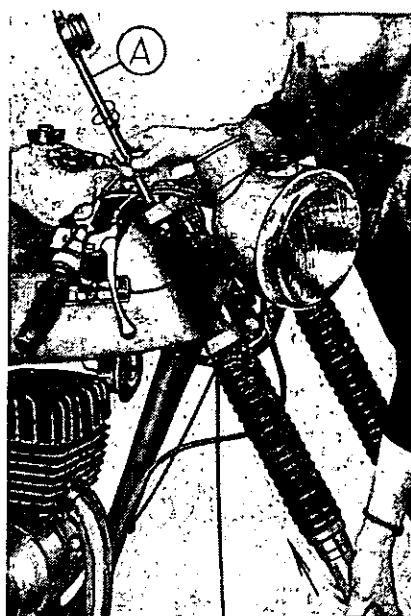

Fig. 24
Next, turn the both screws (2) at the middle lug and stem approx. three turns open and proceed in the same way with screw (3). Then remove the wheel spindle nut and withdraw the spindle. The front wheel is now free and can be lifted clear. To remove the mudguard, the gaiter clip screws (4) must be loosened. If the stanchions can not be removed easily, we advise to use the special tool 19-MW 22-1 (see Fig. 24), and to stroke the stanchions through.